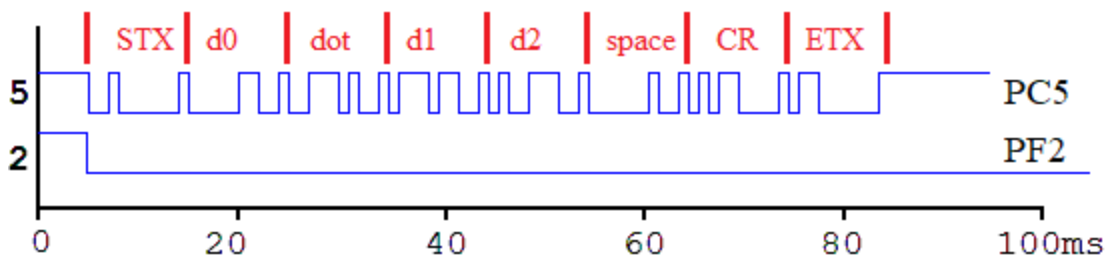

Figure 9.5. TExaSdisplay logic analyzer output. Toggle on PF2 means the SysTick ISR has started. PC5 shows the UART1 serial output.
- Q2. Capture a waveform like Figure 9.5. How long does it take to send an entire message?
- Q3. Capture a waveform like Figure 9.5, but showing two edges of PF2. What is the sampling rate?
Attach a dual-channel oscilloscope to the heartbeat and UART outputs, you will see the 8 frames being transmitted at 115,200 bits/sec every 100 ms. Take two photographs of the scope output, one zoomed in to see the first two frames, and one zoomed out to see the 100 ms time between messages, as shown in Figures 9.5 and 9.6.
Figure 9.5. Example scope output measured on the transmitter. The top trace is heartbeat showing the SysTick interrupt has occurred and the total execution time of the SysTick ISR is 42μs. The bottom trace is UARTx showing the first frame (STX=0x02, frame is start, bit0, bit1, bit2, bit3, bit4, bit5, bit6, bit7, and stop). The width of bit1 is 8.68μs, showing the baud rate is 115,200 bits/sec.
- Q5. Using the photo captured in Figure 9.5, approximately how long does it take to sample the ADC?